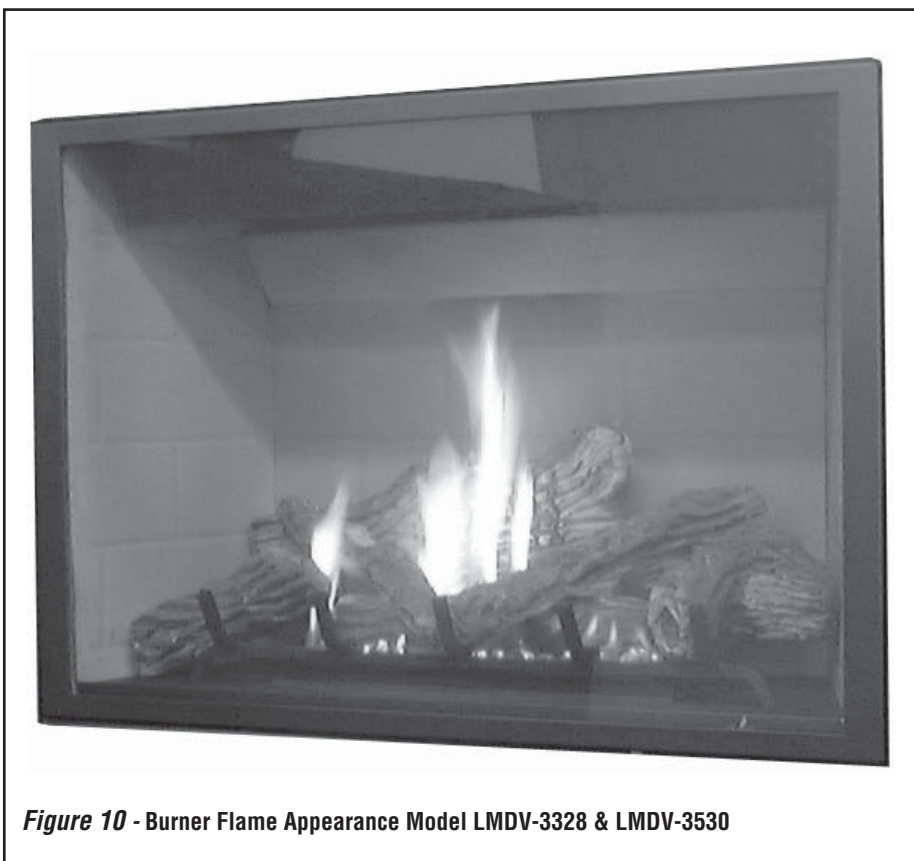

Figure 10 - Burner Flame Appearance Model LMDV-3328 & LMDV-3530
3. Allow the burner to operate for at least 15 minutes while observing the flame continuously to ensure that the proper flame appearance has been achieved (see **Figure 10 or 11**). If the following conditions are present, adjust accordingly.